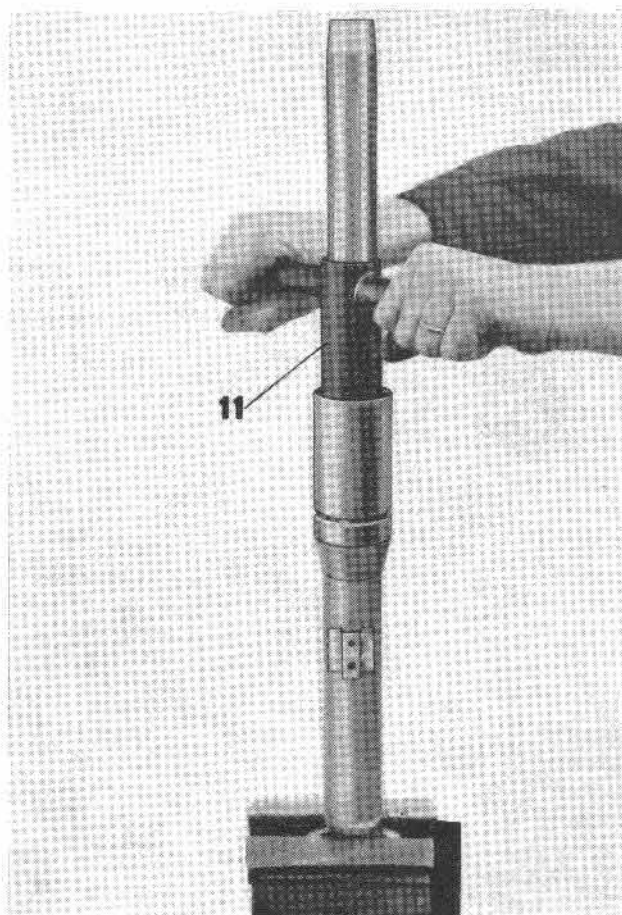

Fig. 100
- after pressing in seal ring, fit spring housing, by means of special wrench No. 12912600 (see 11 on Fig. 100).